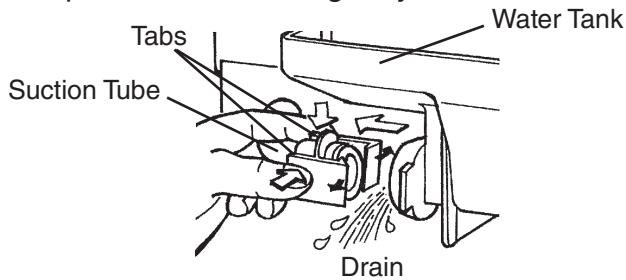

Fig. 33
- 3) Inside the storage bin, disconnect the suction tube by squeezing the tabs and pulling the tube clear. See Fig. 33. Allow the water tank to drain.